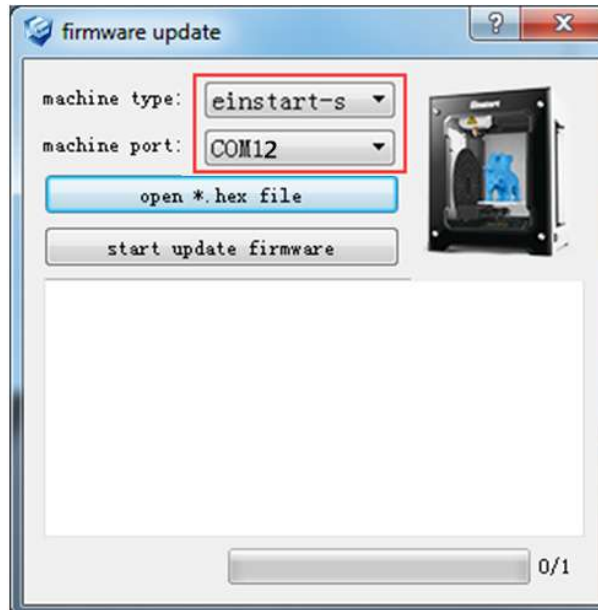

Figure 6.6.1
1. Click “Tools”->”Firmware Update”, see figure 6.6.1.